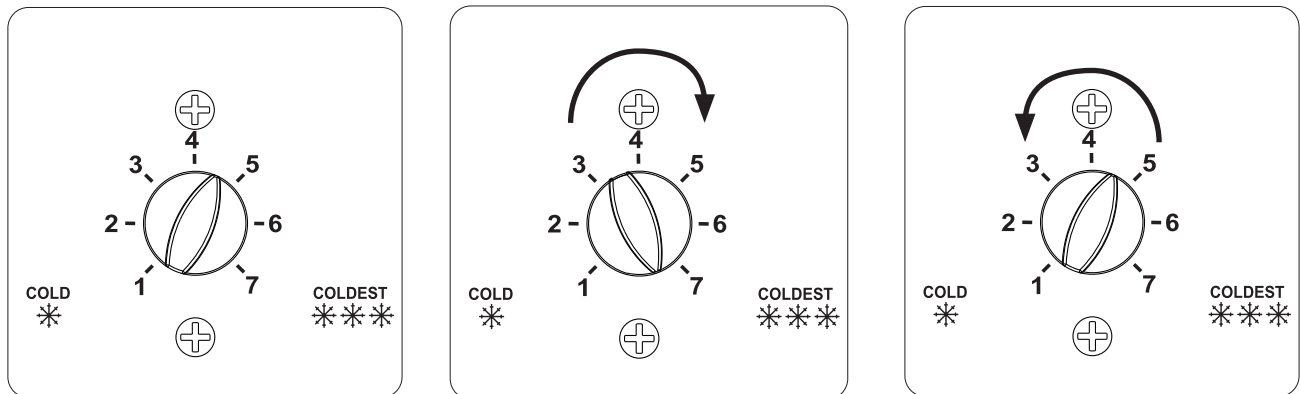

Fig.3
- 1) Rotate TD all the way to the right. Wait 1 to 5 sec. then rotate back to original setting. Defrost initiated. See Fig. 3.